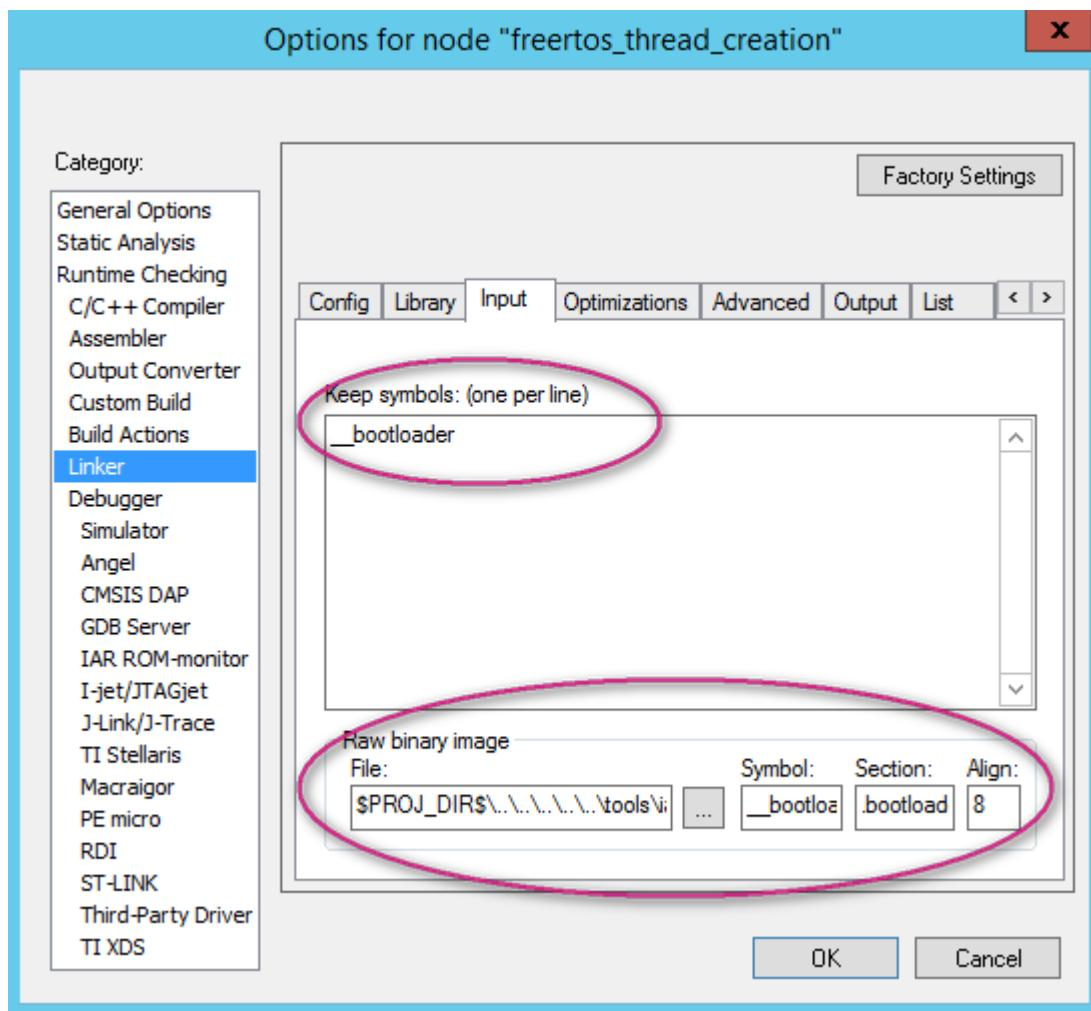

Figure 72. Set extra download Image
- 5) Choose Linker and Navigate to the input tab to modify setting as below, as shown in Figure 72.